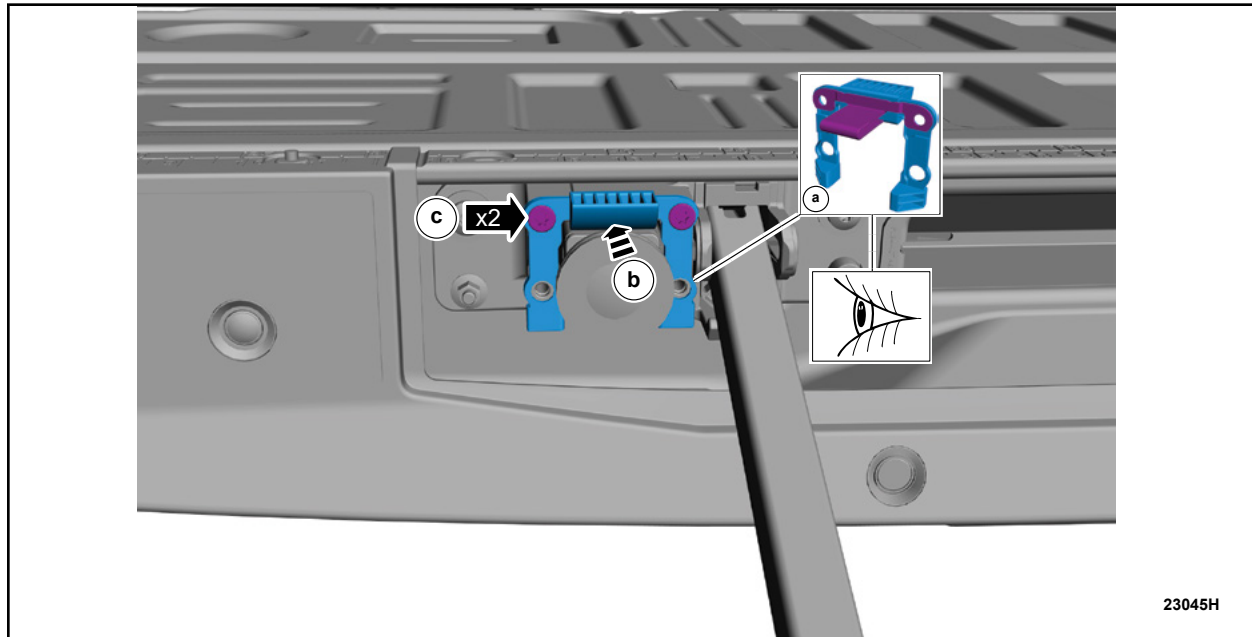

FIGURE 9
6. Install the cover plate spring and cover plate overmold. See Figure 9.